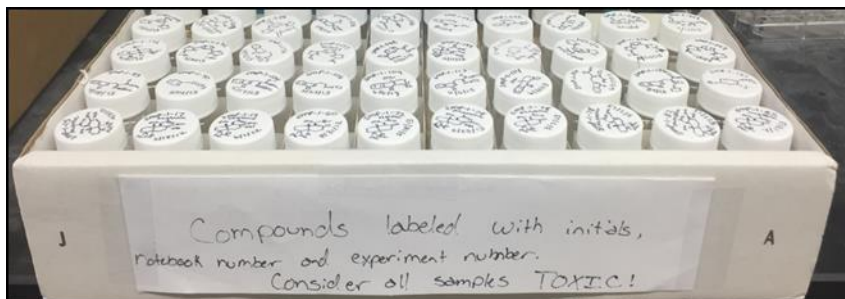

Figure 4: Research samples labeled with initials, notebook number are contained within a holder labeled with the hazards
- Containers of the same hazard class stored together in a bin (e.g. Figure 4)